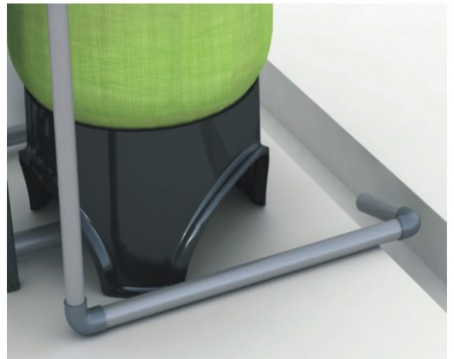

Figure1-4
- d. Glue the drain outlet with UPVC (DN40). Put drain outlet pipe to sewer as showed in the Figure 1-4.
- Be sure not connect drain with sewer, and leave a certain space between them, avoid wastewater be absorbing to the water treatment equipment, such as showed in the Figure1-4.
⑤Connect brine tube